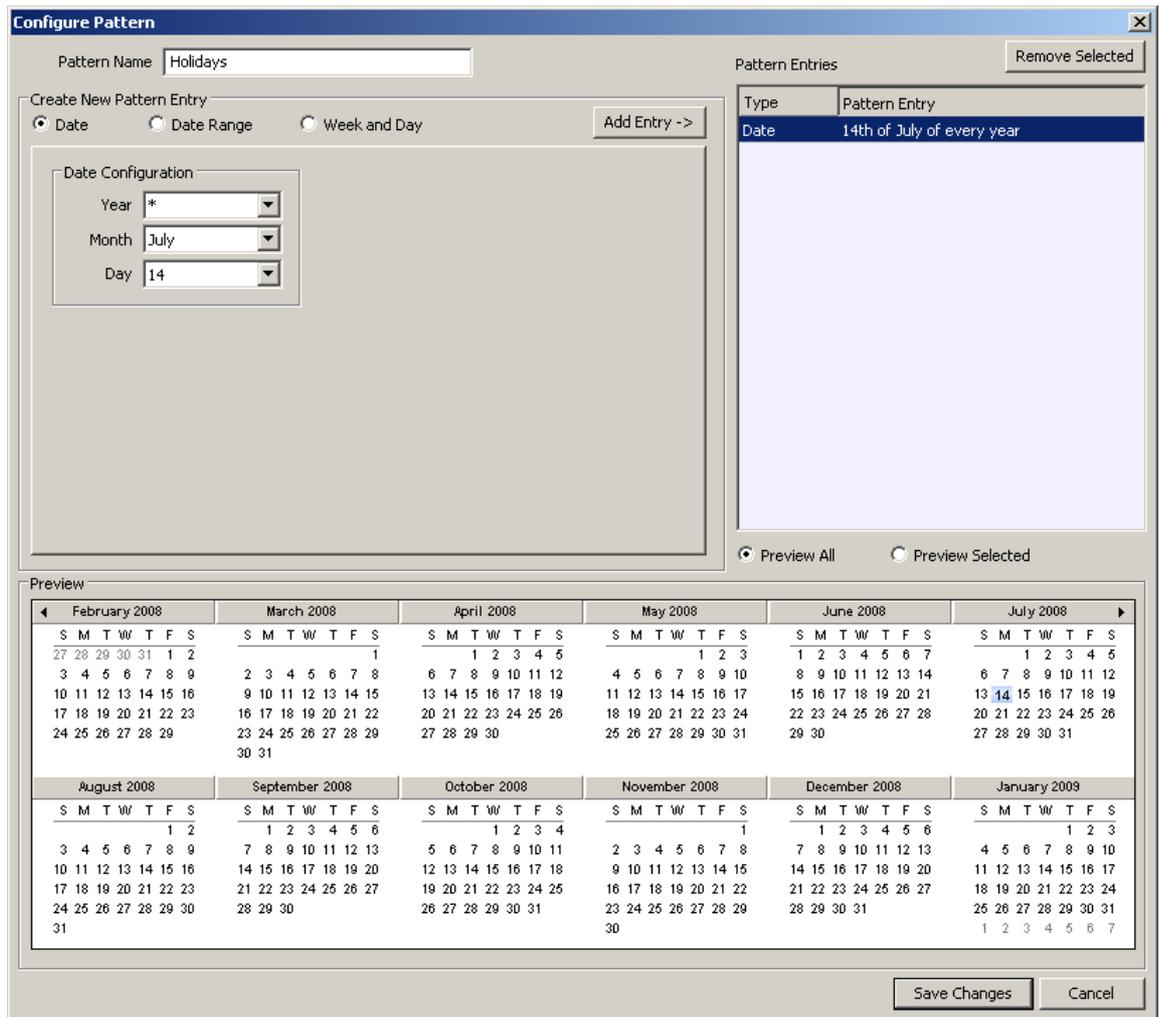

Figure 103: Configure Calendar Pattern Dialog.
4. The **Configure Pattern** dialog appears as shown in Figure 103. Add dates to the calendar pattern by entering a Date Configuration. Then click **Add Entry**. The date appears in the **Pattern Entries** list on the right-hand side.